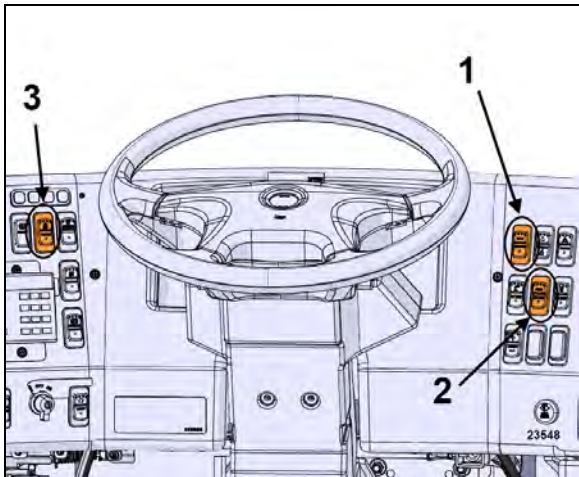

FIGURE 33: ACTIVATING THE CHAIN SYSTEM USING DASHBOARD SWITCHES
- From the driver seat's, pressing and holding simultaneously both the stop request reset (1) and the sweep mode (2) momentary switches while pressing the chain activation switch (3) 4 times in less than 2 seconds (FIGURE 33).